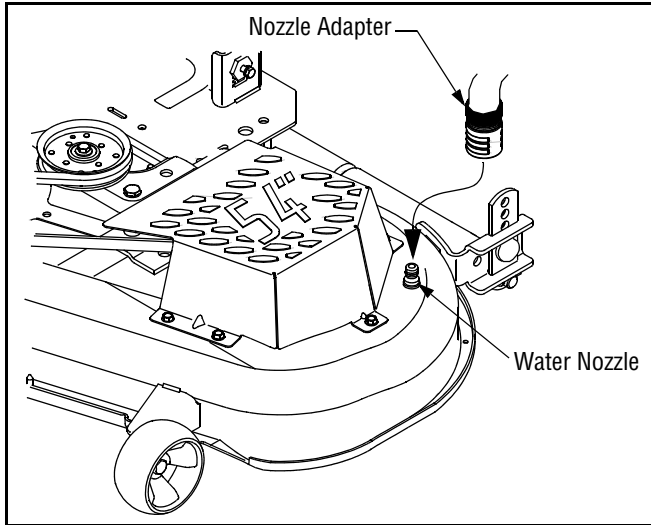

Figure 19
4. Push the nozzle adapter onto the water nozzle on one side of the deck. See Figure 19.